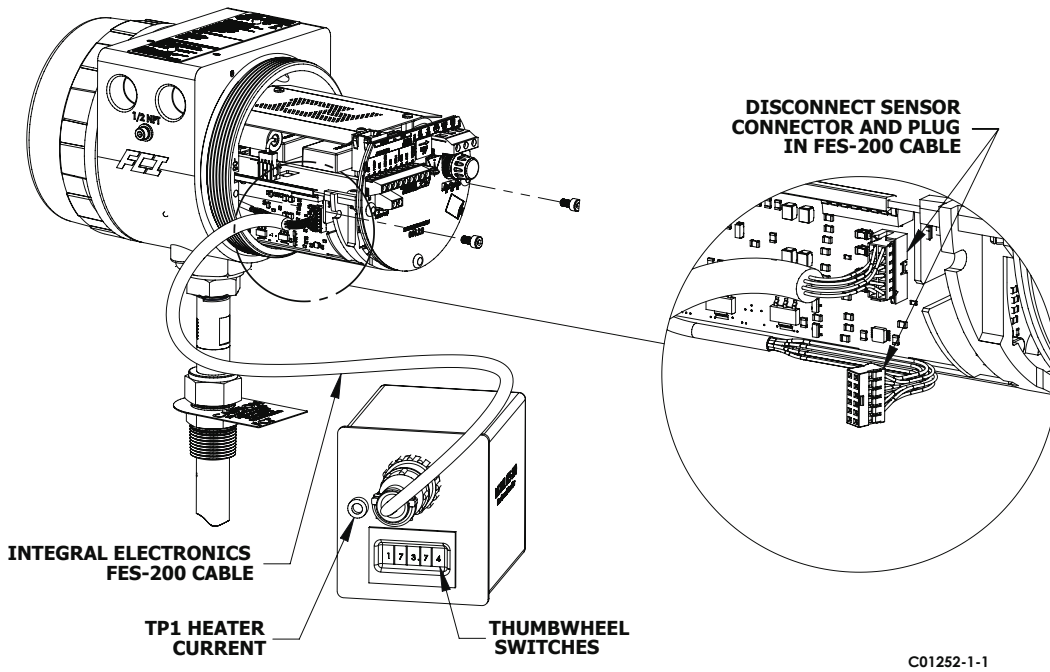

Figure 22 - Integral Configuration
3. Disconnect the instrument's sensor and connect the FES-200 input connector into the transmitter. See figures 22 thru 24 for integral or remote configuration diagrams. Precision decade boxes can be used in place of the FES-200. See Figure 25 for decade box wiring.